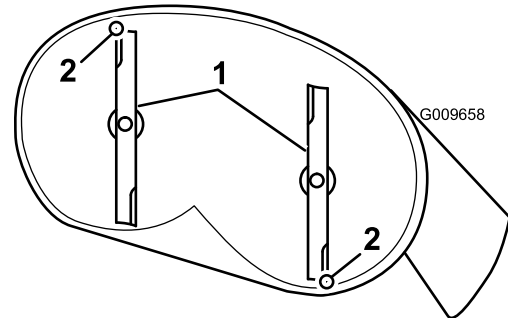
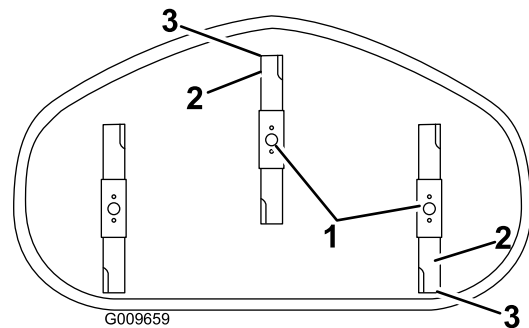

Figure 55
Figure 56
4. Carefully rotate the blades so that they are facing front to rear (Figure 55 and Figure 56).
5. Measure from the tip of the front blade to the flat surface, and the tip of the rear blade to the flat surface (Figure 55).
7. After adjustment, check the front-to-rear slope again, continue adjusting the nut until the front blade tip is 1.6 to 7.9 mm (1/16 to 5/16 inch) lower than the rear blade tip (Figure 55).